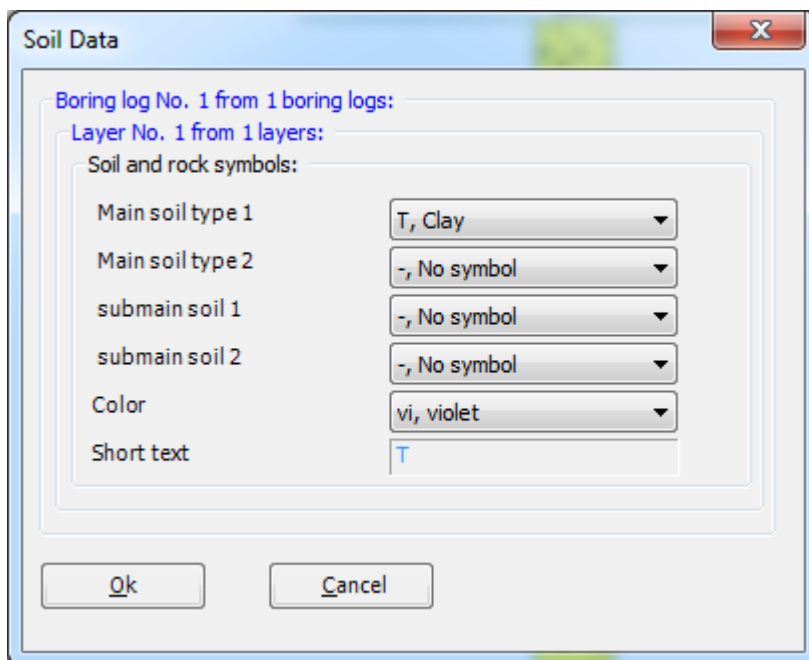

Figure 9.16 "Soil and rock symbols" dialog box
- Double-click on the soil symbol of the soil layer. The corresponding dialog box appears allowing you to modify the soil symbols of that layer, Figure 9.16
- Select "T, Clay" as the soil type in the "Main soil type 1" combo box in the dialog group box "Soil and rock symbols" in Figure 9.16. The color of the clay and a short text "T" according to the German specification code DIN 4023 will be automatically created